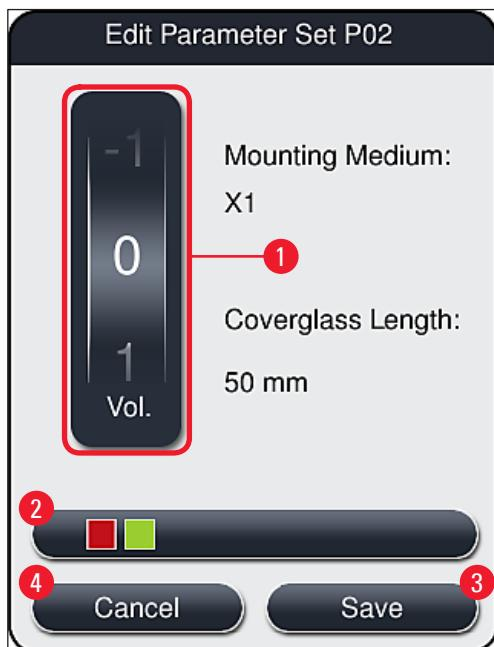

Fig. 48
2. In the following menu (→ Fig. 48) the application volume can be lowered or increased by turning the roller (→ Fig. 48-1).